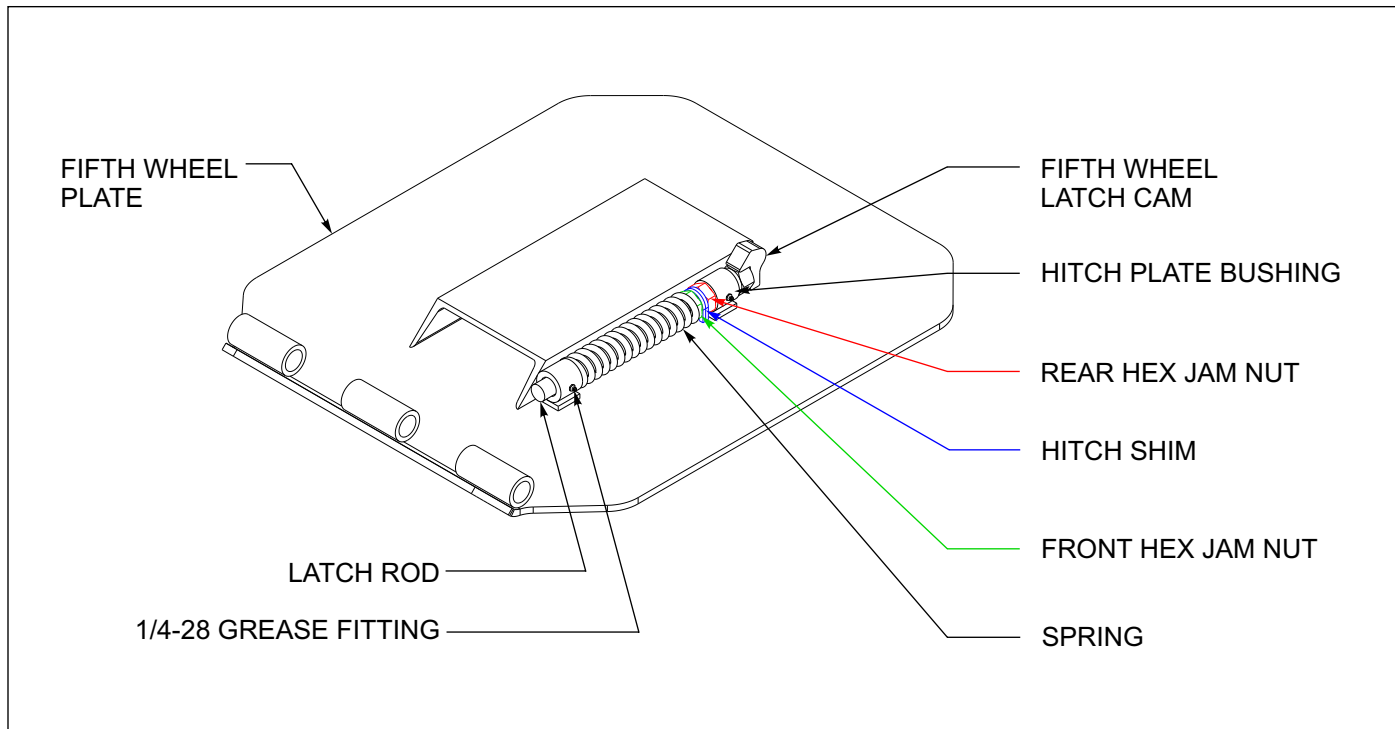

Figure 4-3: Fifth Wheel Latch Adjustment
1. To adjust fifth wheel latch assembly, support fifth wheel plate and adjust rear nut until the cam just touches the flat surface on the latch, **See Figure 4-3.**